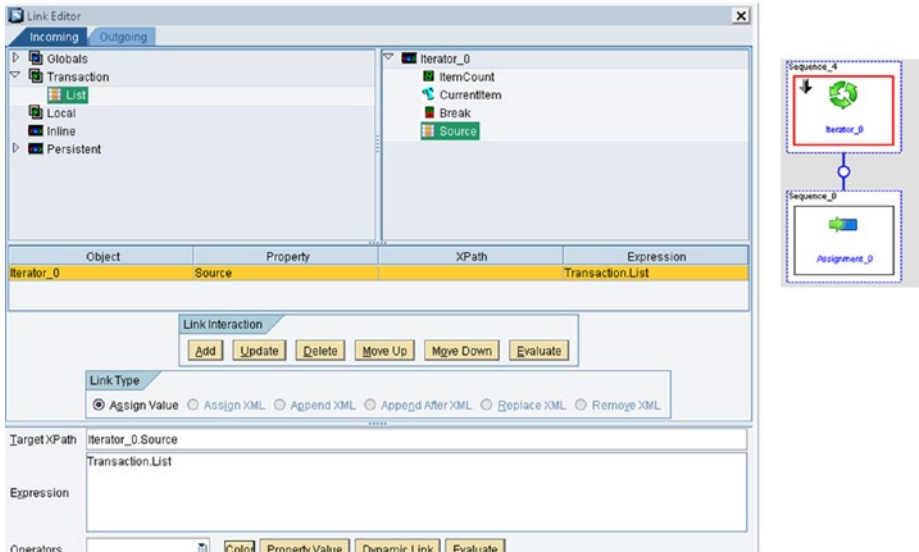

Figure 6-46. The Iterator action block
- *Iterator action block:* This is used to repeat the data of a list variable. It is like repeater but the repeater repeats in the XML node whereas this repeats on the list variable. It expects a list type variable for its input, as shown in Figure 6-46.